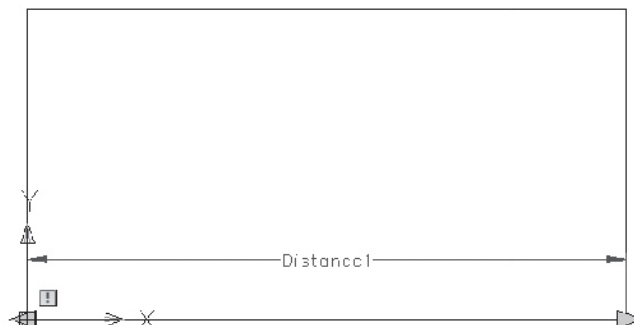

Fig. 34-2
4. Pick a point inside the bed for the label location, as shown in Fig. 34-2.